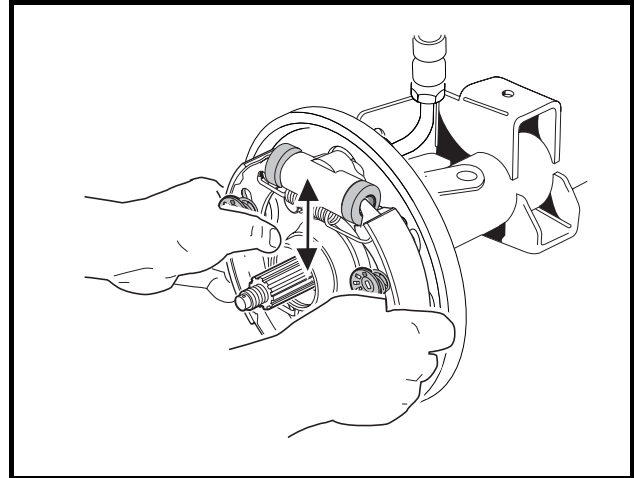

Figure 6-13 Slide Brake Shoes
6. After the shoes are installed, move them together up and down approximately 1/4 to 3/8-inch (6.3 to 9.5 mm) to make sure that they will slide easily without binding (**Figure 6-13, Page 6-13**).
6. After installation, move brake shoes up and down to make sure that they will slide easily approximately 1/4 to 3/8-inch (6.3 to 9.5 mm) without binding (**Figure 6-13, Page 6-13**).